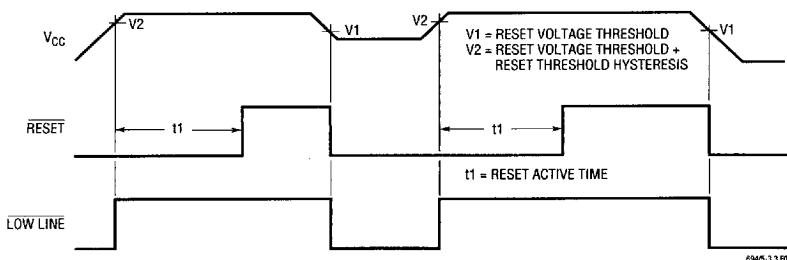

Figure 1. Reset Active Time
**LOW LINE**: Logic Output from Comparator C1. LOW LINE indicates a low line condition at the VCC input. When VCC falls below the reset voltage threshold (2.90V typically), LOW LINE goes low. As soon as VCC rises above the reset voltage threshold, LOW LINE returns high (see Figure 1). LOW LINE goes low when VCC drops below VBATT (see Table 1).
stabilize. The reset active time is adjustable on the LTC695-3.3. On power-down, the RESET signal remains active low even with  $V_{CC}$  as low as 1V. This capability helps hold the microprocessor in stable shutdown condition. Figure 1 shows the timing diagram of the RESET signal.